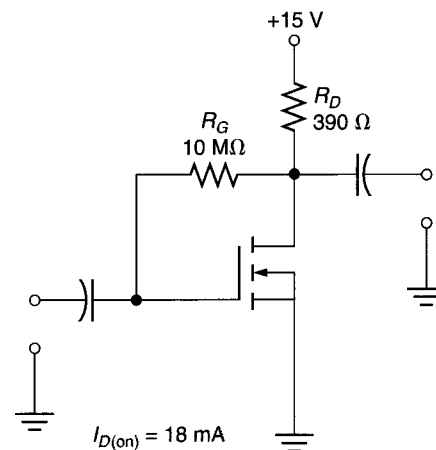

FIGURE 13.34
16. Calculate the values of  $I_D$  and  $V_{DS}$  for the amplifier in Figure 13.34.